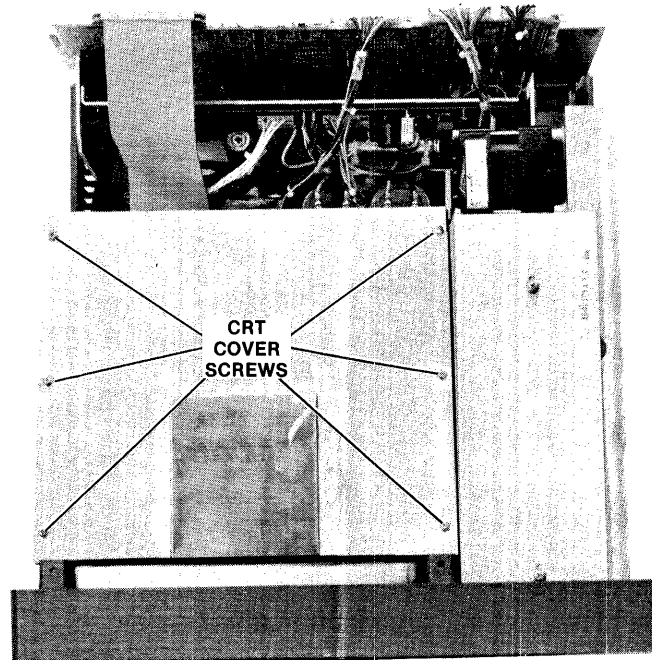

Fig. 4-10 CRT Cover Removal
3. Remove the top protective cover over the CRT. The protective cover is held in place by six screws as shown in Figure 4-10.